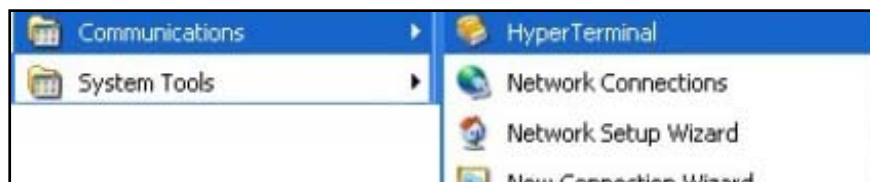

Fig. 4.3
- 3) Run the HyperTerminal application on the PC. This can usually be found in the **Start Menu – Accessories – Communications – HyperTerminal (Fig. 4.3)**. HyperTerminal may be in a different location depending in the operating system being used.